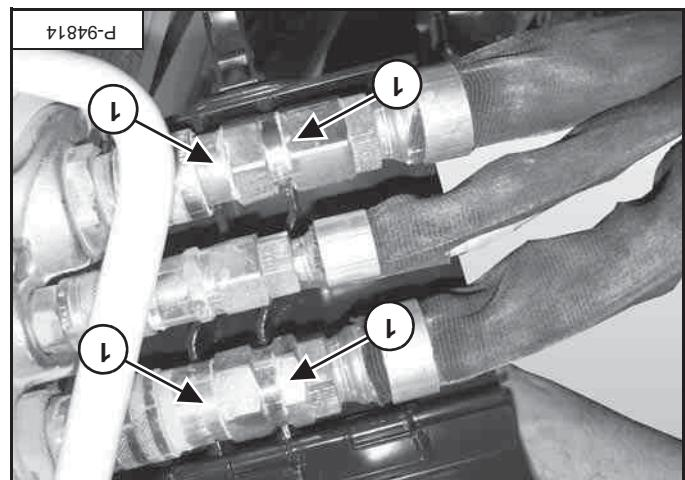

Figure 74
Place the coupler shield over the couplers and align the shield with the grooves (item 1) [Figure 74] on the hose couplers. Close the shield.